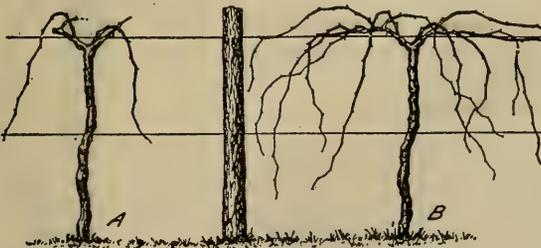

Fig. 123. Showing the method of training by the umbrella system. At the end of the fourth year (A) pruned vine (B) unpruned vine.
8. Near the base of each of these canes, but upon the older wood of the T head, short spurs carrying two or three buds are maintained, A and B, Fig. 123, from which shoots develop which in turn are usually employed to furnish the fruiting canes of the succeeding year; that is, the spurs are the means of renewing the fruiting wood of the vine grown on the high-renewal system.
b. Pruning. Fig. 123.
- a. See Figure 123.
1. The vines in figure 123 show how they were pruned for the first four years according to the two-cane system which will also represent how the top is formed in the other system.
10. It is for this reason that the little growths are started as in B and C, Fig. 122 and A and B in Fig. 123.